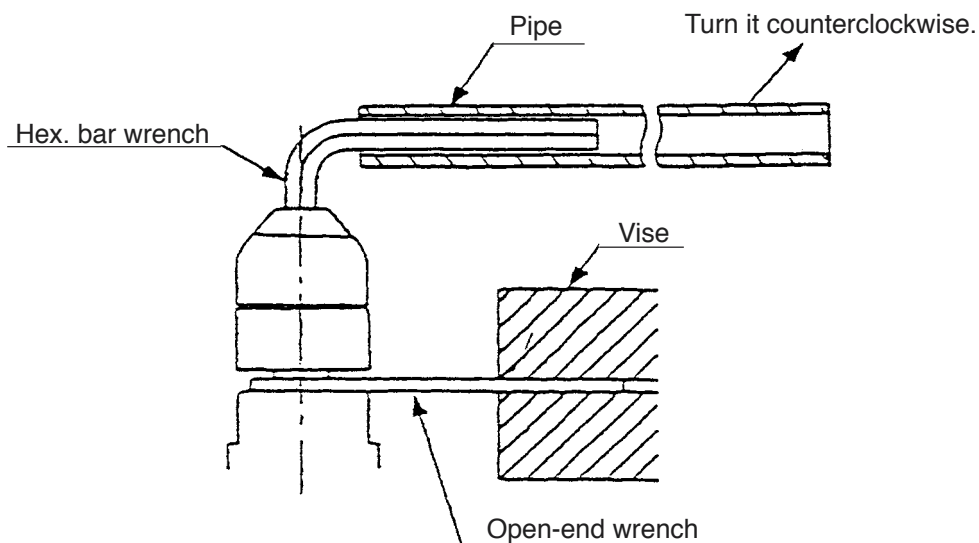

Fig. 9
- b. Hold the Spindle [3] with the open-end wrench secured to the vise as shown in Fig. 9.
Mount the pipe to the hex. bar wrench. Turn the hex. bar wrench counterclockwise to loosen the drill chuck. (Fig. 9)